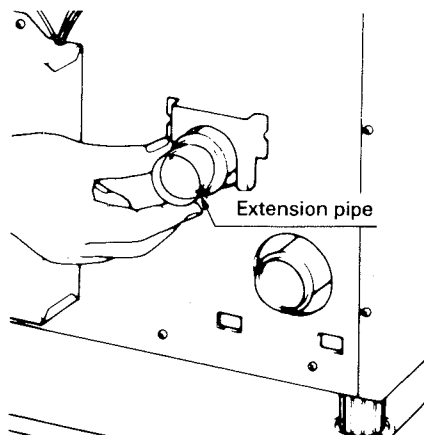

Fig. 13
9. In case the circuit board cover gets in the way of the connection of the standard flue pipe, use the extension pipe for the exhaust outlet mouth of the heater (See Fig. 13).
11. Secure the L-shaped hose to the intake inlet mouth with the hose band. Secure the bent joint to the standard flue pipe with the pipe holder (If the extension pipe is used, also attach the pipe holder to the connection of the bent joint and the extension pipe). Secure the bent joint (or the extension pipe) to the exhaust outlet mouth by sliding the pipe stopper in the exhaust mouth bracket (See Fig. 13).